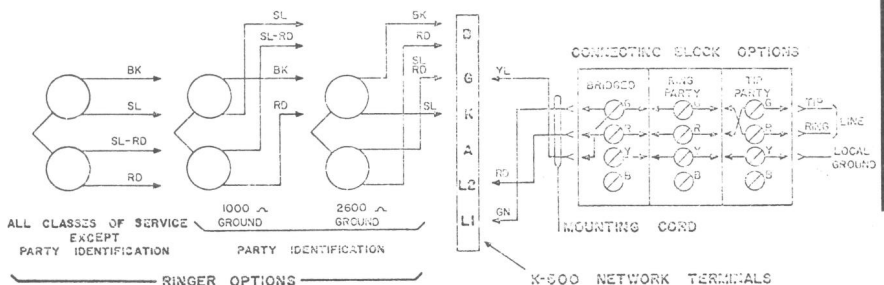

FIGURE 4. TYPICAL WIRING DIAGRAMS
- 1.04 The 130 ringer is a double wound coil, two gong, straight line, biased type of unit equipped with a mechanical volume control and assembled on an open, die-cast metal frame. (See Figure 3.) In combination with types 131, 133, 141 and 142 frequency selective ringers, it provides a complete range of units which meets the requirements of every class of telephone line ringer. (See Figure 4.) Flexible wire leads are provided for the coil connections of the ringer. The unit is mounted to the telephone instrument base by a locating stud and two screws, each with a shock absorbing rubber bushing.